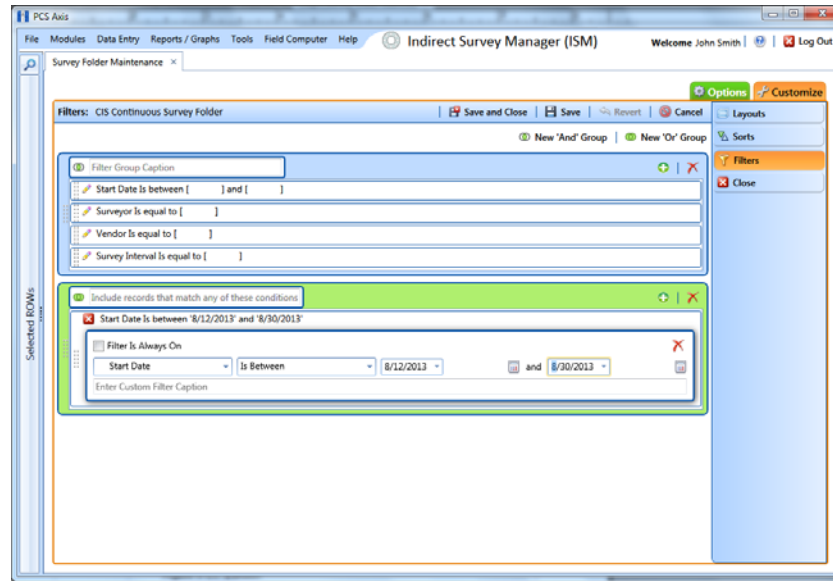

Figure 5-19. Filters
- 6 Click the **Filters** button  to open the *Filters* page. Then click  **New 'Or' Group** to open a filter properties group box (Figure 5-19).
- 9 If the OR filter group includes a date filter, such as *Start Date Is Between* shown in Figure 5-19, set a date range using a calendar or dynamic dates in the following manner: